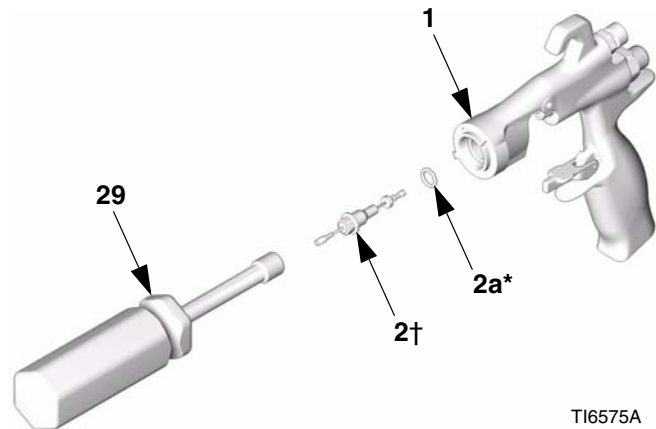
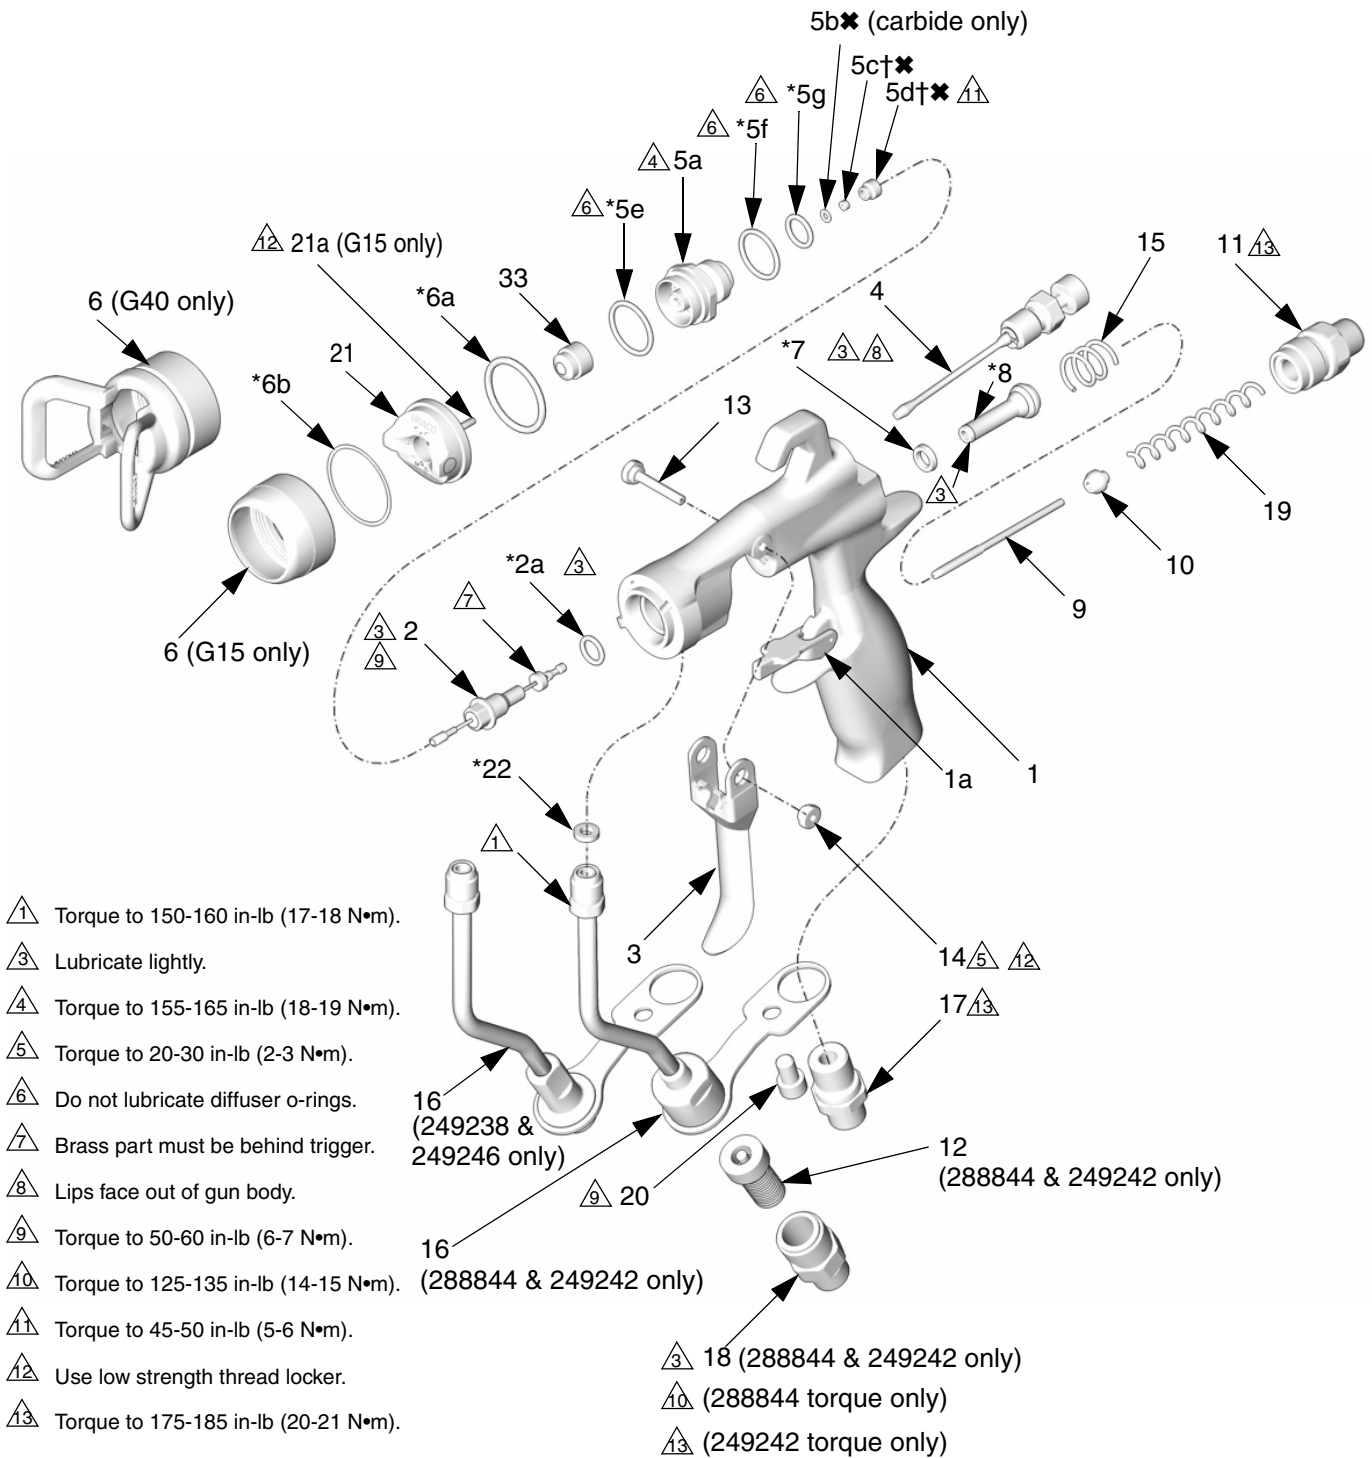

FIG. 43
FIG. 44
1. Install the tube gasket (22*) in the gun. Handtighten the fluid tube connector (C) into the gun's fluid inlet. Handtighten the air inlet fitting (17) and screw (20). Torque the fluid tube connector to 150-160 in-lb (17-18 N•m). Torque the air inlet fitting to 175-185 in-lb (20-21 N•m). Torque the fluid tube bracket screw to 50-60 in-lb (6-7 N•m). See FIG. 44.
2. Install the inline fluid filter (12) into the base of the fluid tube. Screw the fluid inlet fitting (18) into the base of the tube. Torque to 175-185 in-lb (20-21 N•m). See FIG. 44.
4. Lubricate the front end of the air valve assembly (8*). Gently slide the air valve assembly into the back of the gun, passing through the u-cup (7*), as far as it will go. Be careful not to damage the u-cup. See FIG. 44.
5. Slide the seat (10) onto the shaft (9). Be sure that the tapered end of the seat is toward the thicker end of the shaft. Carefully insert the shaft (9) and seat (10) in the air valve (8*).
6. Install the two springs (15 and 19). Screw the spring cap (11) into the back of the gun body. Torque to 175-185 in-lb (20-21 N•m).
7. Lightly lubricate the needle assembly o-rings and shaft where the packing slides. Be sure that the o-ring (2a*) is in place in the gun body (1).
8. Insert the fluid needle assembly (2) into the front of the gun. Use the nut driver (29) to screw the fluid needle assembly into the gun body (1) and torque to 50-60 in-lb (6-7 N•m). See FIG. 43.
9. Install the trigger (3), pivot pin (13), and nut (14). Use low strength thread locker and be sure that the brass piece of the fluid needle assembly (2) is behind the trigger. See FIG. 44. Lubricate both sides of the pivot pin where the trigger contacts the pin and lubricate the boss on both sides of the gun where the trigger contacts the gun body. Torque the nut to 20-30 in-lb (2-3 N•m).
10. Trigger the gun to pull the needle back while you screw the diffuser assembly (5) into the gun body (1) using the gun tool (30). Torque to 155-165 in-lb (18-19 N•m). When properly tightened, the flange will bottom out on the gun.
11. Attach the retaining ring (6), air cap (21), and spray tip (33)✘.